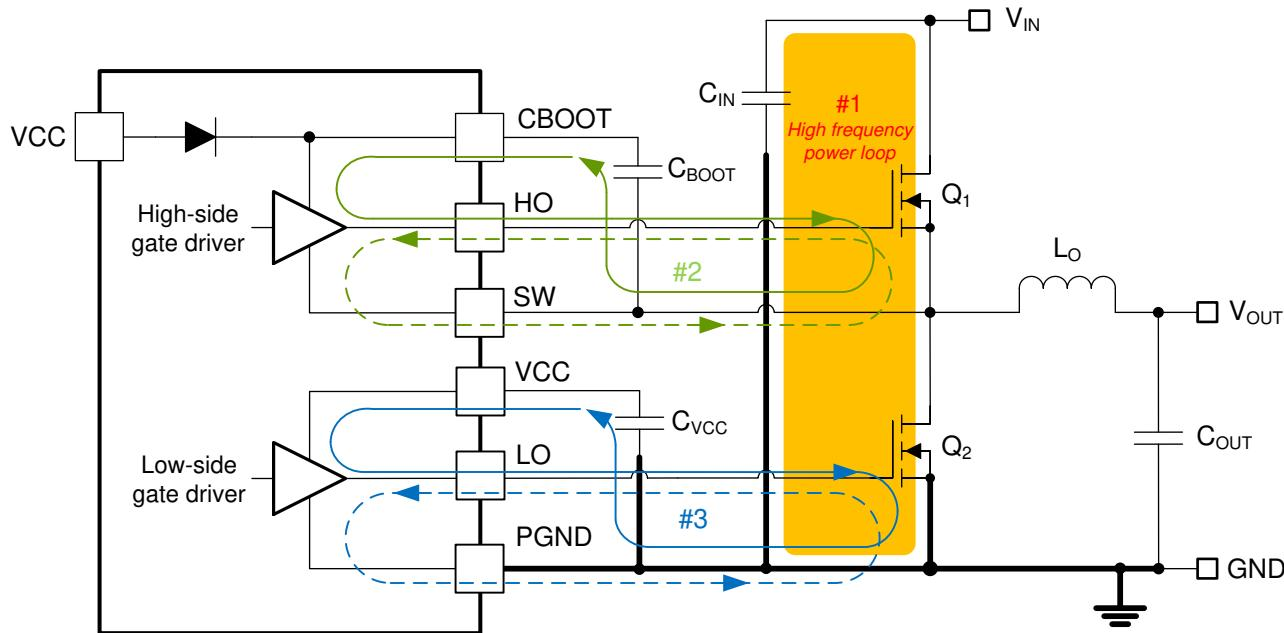

图 9-46. DC/DC Regulator Ground System With Power Stage and Gate Drive Circuit Switching Loops
Proper PCB design and layout is important in a high-current, fast-switching circuit (with high current and voltage slew rates) to achieve a robust and reliable design. As expected, certain issues must be considered before designing a PCB layout using the LM5148. The high-frequency power loop of a buck regulator power stage is denoted by loop 1 in the shaded area of 图 9-46. The topological architecture of a buck regulator means that particularly high di/dt current flows in the components of loop 1, and it becomes mandatory to reduce the parasitic inductance of this loop by minimizing its effective loop area. Also important are the gate drive loops of the high-side and low-side MOSFETs, denoted by 2 and 3, respectively, in 图 9-46.
- Loop 1: The most important loop area to minimize is the path from the input capacitor or capacitors through the high- and low-side MOSFETs, and back to the capacitor or capacitors through the ground connection. Connect the input capacitor or capacitors negative terminal close to the source of the low-side MOSFET (at ground). Similarly, connect the input capacitor or capacitors positive terminal close to the drain of the high-side MOSFET (at VIN). Refer to loop 1 of 图 9-46.
- The SW pin connects to the switch node of the power conversion stage and acts as the return path for the high-side gate driver. The parasitic inductance inherent to loop 1 in 图 9-46 and the output capacitance (C_{oss}) of both power MOSFETs form a resonant circuit that induces high frequency (greater than 50 MHz) ringing at the SW node. The voltage peak of this ringing, if not controlled, can be significantly higher than the input voltage. Make sure that the peak ringing amplitude does not exceed the absolute maximum rating limit for the SW pin. In many cases, a series resistor and capacitor snubber network connected from the SW node to GND damps the ringing and decreases the peak amplitude. Provide provisions for snubber network
- Loop 2: high-side MOSFET, Q_1 . During the high-side MOSFET turnon, high current flows from the bootstrap (boot) capacitor through the gate driver and high-side MOSFET, and back to the negative terminal of the boot capacitor through the SW connection. Conversely, to turn off the high-side MOSFET, high current flows from the gate of the high-side MOSFET through the gate driver and SW, and back to the source of the high-side MOSFET through the SW trace. Refer to loop 2 of 图 9-46.
- Loop 3: low-side MOSFET, Q_2 . During the low-side MOSFET turnon, high current flows from the VCC decoupling capacitor through the gate driver and low-side MOSFET, and back to the negative terminal of the capacitor through ground. Conversely, to turn off the low-side MOSFET, high current flows from the gate of the low-side MOSFET through the gate driver and GND, and back to the source of the low-side MOSFET through ground. Refer to loop 3 of 图 9-46.